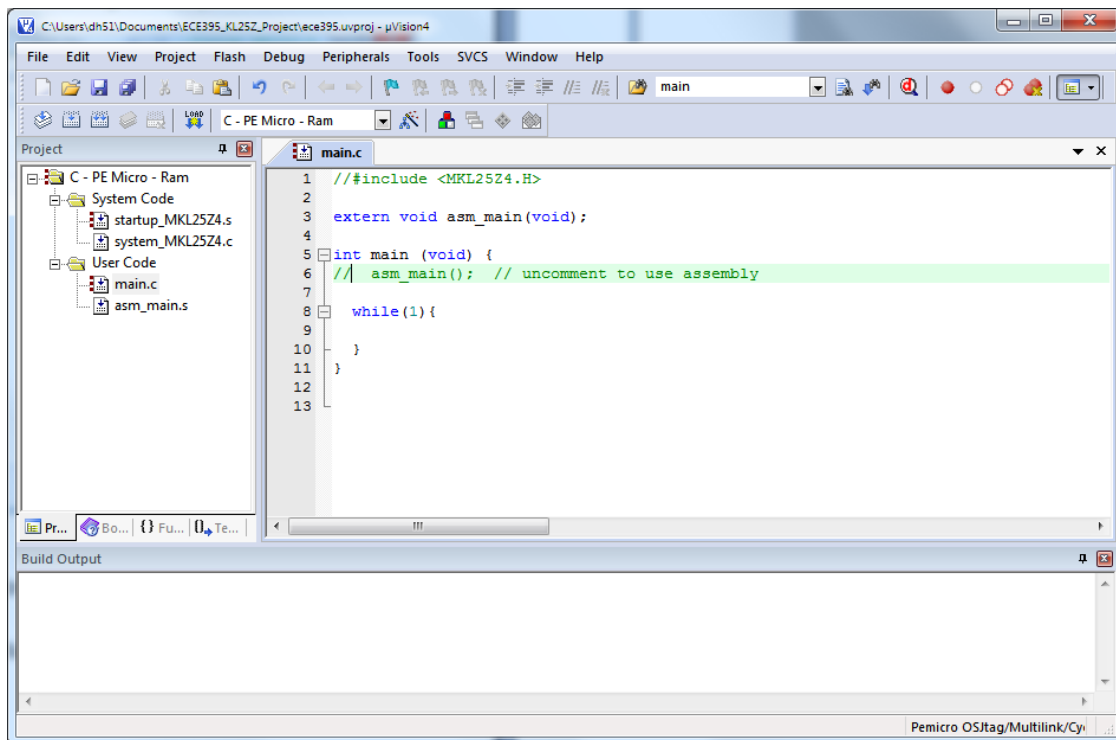

Figure 8 - Default project file main.c
Step 4: In the project, open the file "main.c". (Figure 8)